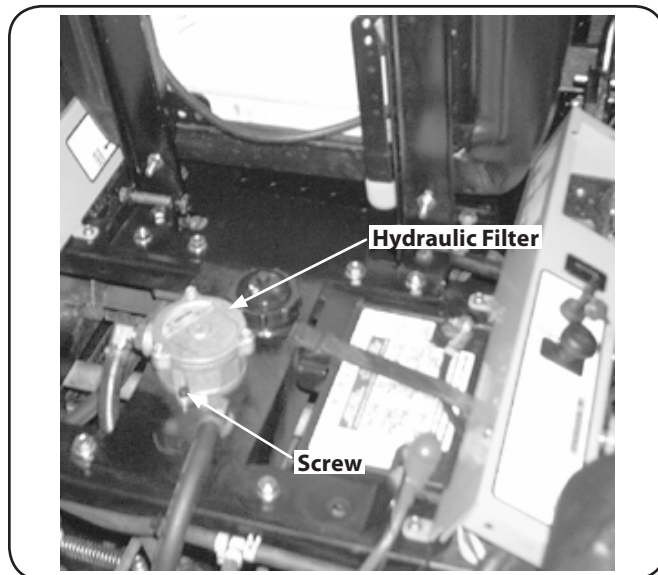

Figure 6-2
8. Place a small pan under the pump motor frame. Remove fill oil cap from hydraulic reservoir for faster drainage. Remove nut caps and drain oil from both left and right pumps. Replace and retighten nuts. See Fig. 6-2.